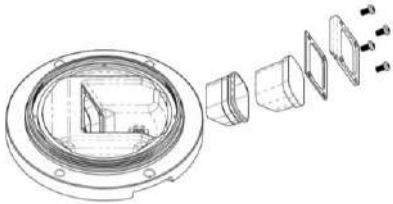

Figure 5-7
- With the cross screwdriver, dismount M5×12 screws and take down the prism pressing bracket, prism washer, lens and lens gasket sleeve in succession (see Figure 5-7)